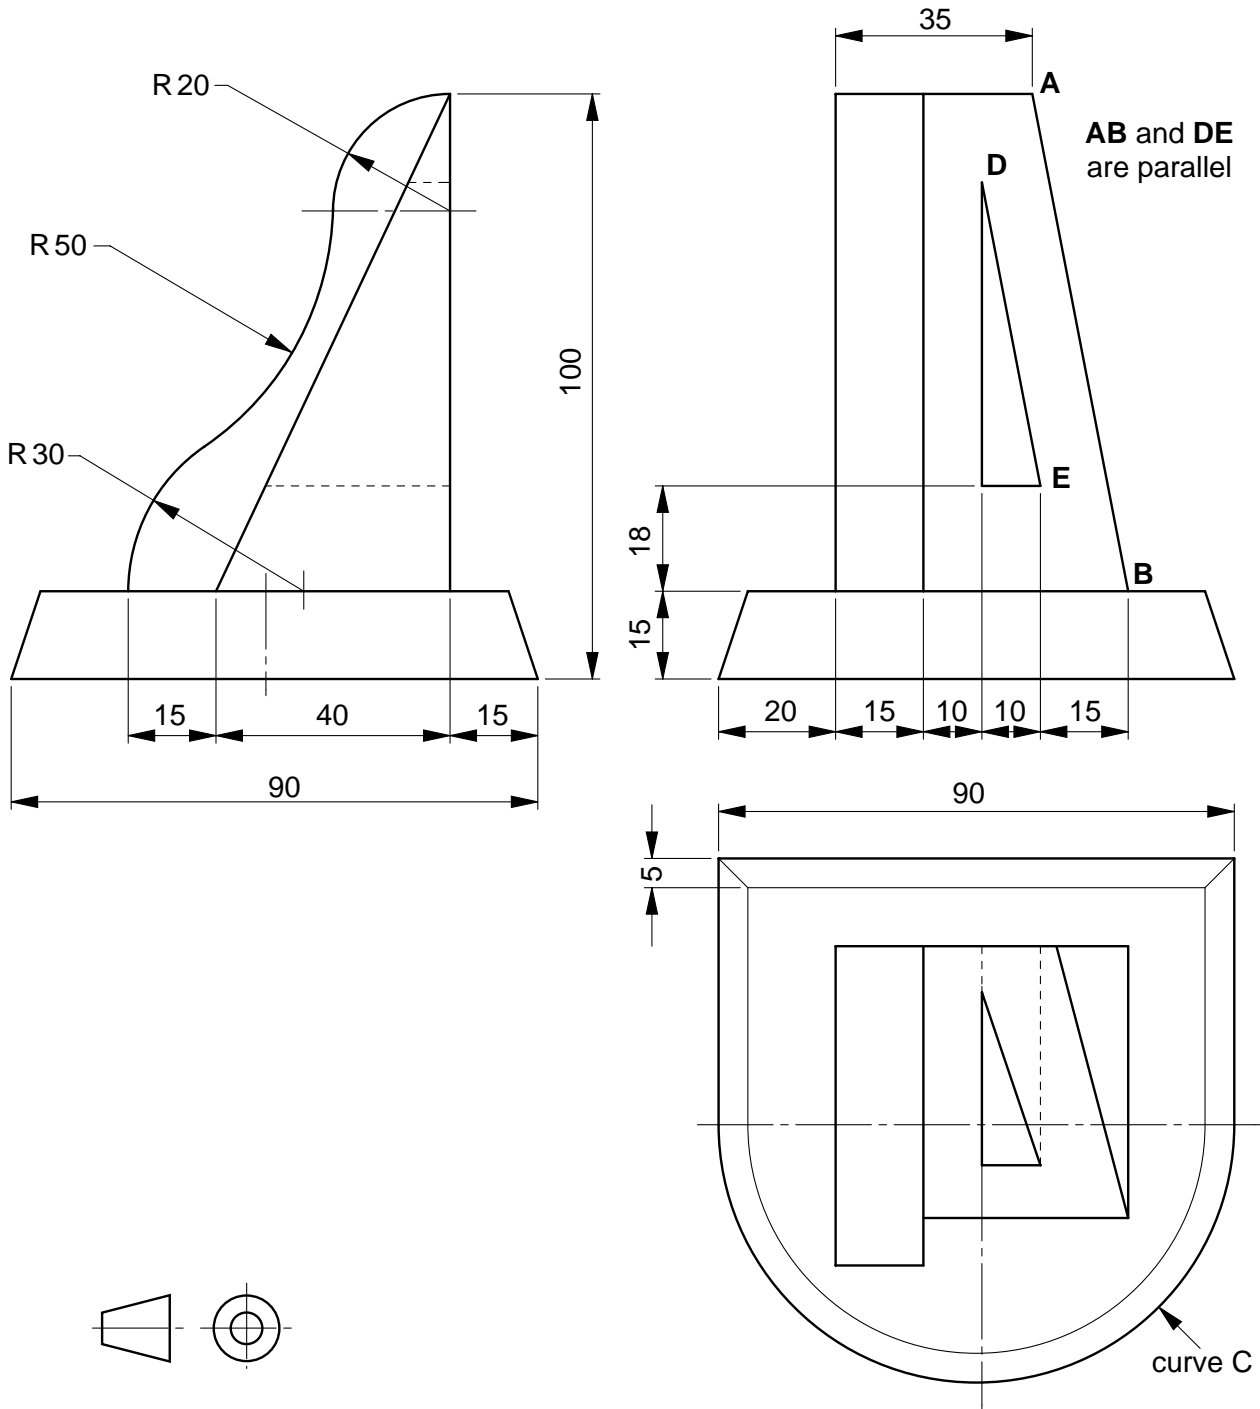

Fig. 5
- 5 Orthographic views of a sports trophy are given in Fig. 5.